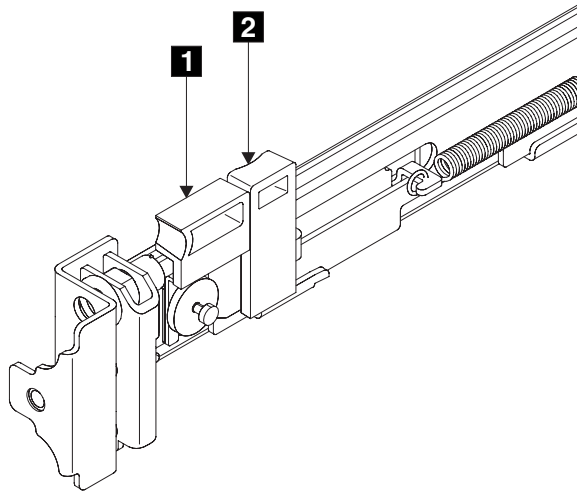

Figure 74. Retracting the latch lock carrier
- Put your index finger against the side of the latch-lever, **1** in Figure 74 on page 333, and put your thumb against the front of the latch-lock **2**.